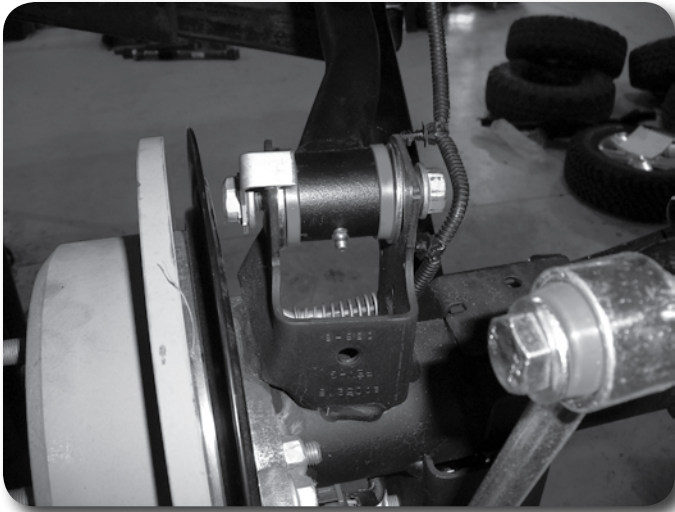

Figure 20
18. Located the 2 pre-assembled rear upper control arms along with the provided 8 large spacer washers. Position a washer on each side of the control arm ends and install into the factory frame and axle mounts with the original hardware. The short adjustable end goes to the frame and the bend in the arm goes toward the inside of the vehicle. Leave hardware loose. Figure 20